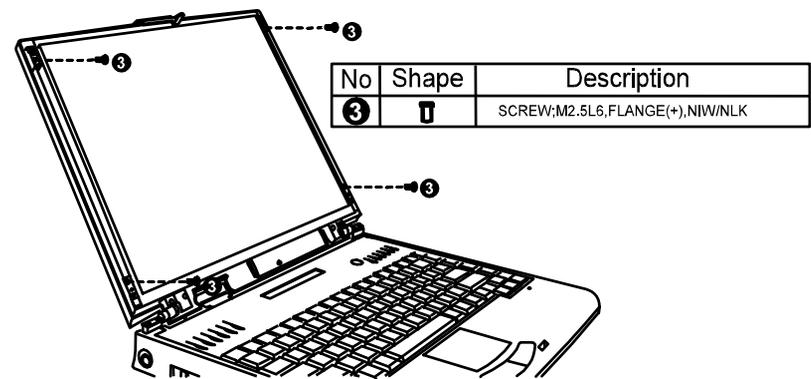

Figure 7-26. Removing the Flat Panel Screen
1. Reconnect the connectors and replace four screws. (ref fig 7-26)